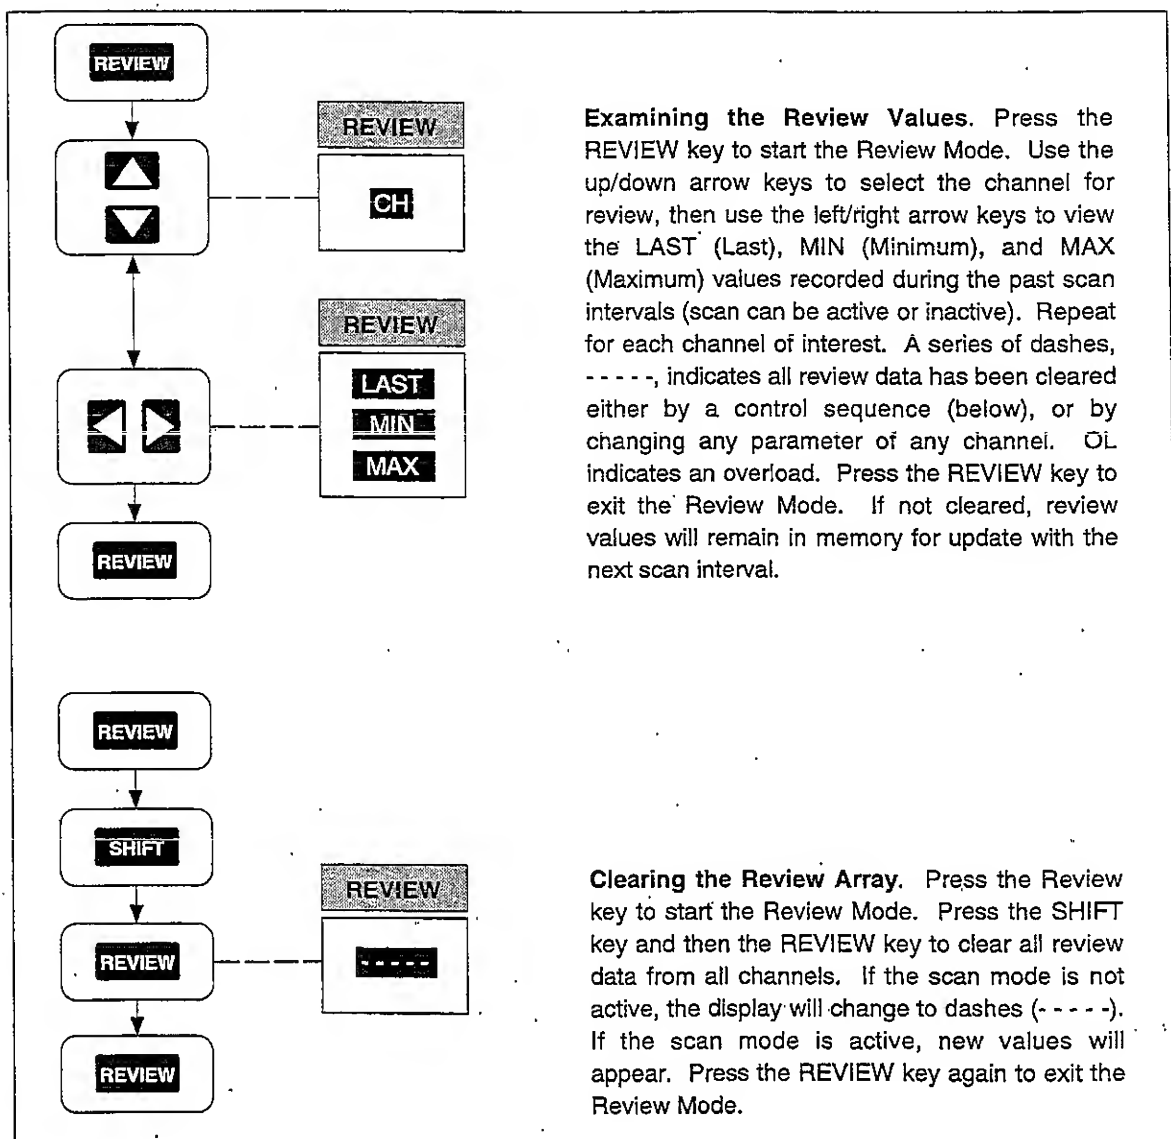

Figure 2-18. Using the Review Mode
- Using the Review Mode (Figure 2-18)
Perform the procedure in Figure 2-15 to start and stop the Scan Mode of operation. The Scan Mode can be started when the instrument is inactive, in Monitor (Figure 2-17), or Review (Figure 2-18). Measurement results can be sent to a memory card (see Section 3, "Memory Card Operations") and PC (see Section 4, "Computer Operations") or printer (see Section 5, "Printer Operations"). When using the Scan Mode with a memory card, consider each of the following topics. (Memory card error messages are summarized in Figure 2-16.)
Perform the procedure in Figure 2-18 to operate the Review Mode of operation. The Review Mode is used any time during or after operation of the Scan Mode. While the instrument is in the Scan Mode, the last, maximum, and minimum measurements for each scanned channel are stored in memory and updated with each scan, forming the Review Array. For example, during scan operations, review can be used to monitor the maximum measurement of a channel in real time. The Review Array is cleared by a control sequence (see Figure 2-18 below), or by changing any parameter of any channel or the measurement rate. The Review Array can be printed out using the LIST key (see Figure 5-4). If the instrument is in the Review Mode and scanning using the memory card, any illegal memory card operations is noted only with a double "beep." If a double beep is heard, exit the Review Mode and check the memory card error (see Figure 2-16).